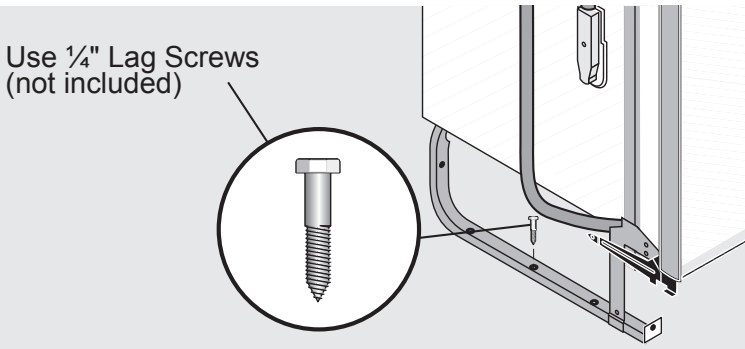

Figure 17
1. Screw 1/4" lag screws (not included) through holes provided in the frame rail. **See Figure 17.**